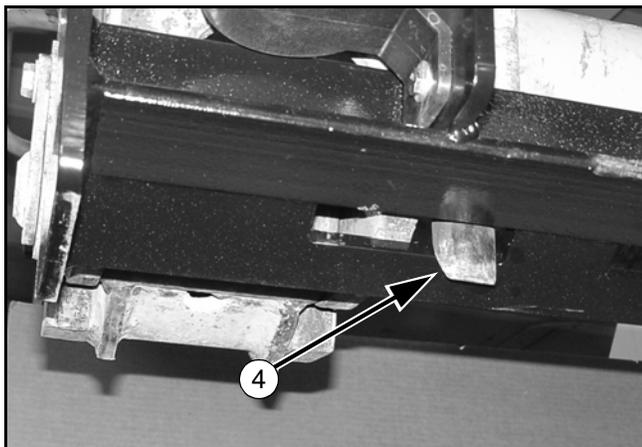

Figure 3. Coupler Pin Fully Engaged
- Make sure the coupler pins (4) are fully engaged into the auger mounting adapter plate as shown in Figure 3.